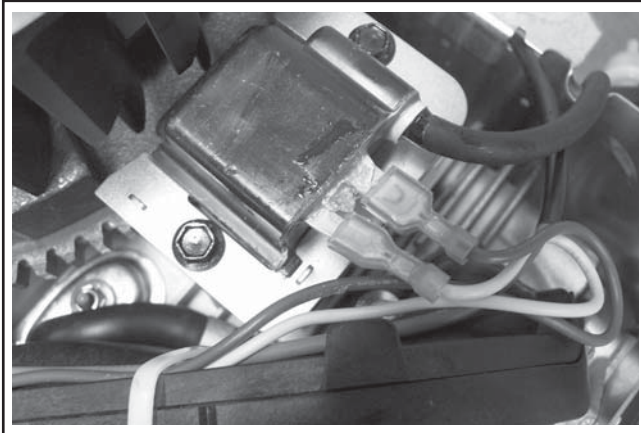

Figure 8-24. Removing B+ Lead from Terminal Plug.
4. Use the tip of a small screwdriver or similar small flat tool to bend the locking tang, then remove the B+ (center lead) from the terminal plug as shown in Figure 8-24. This will allow the intake manifold to be removed with the wiring harness intact.